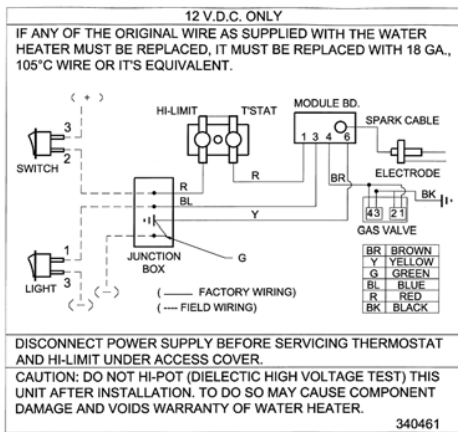

Figure 8 MAKING ELECTRICAL CONNECTIONS 120 VOLTS A.C.
- D. Make the 12 Volt D.C. electrical connections following the wiring diagram illustrated in Figure 8.